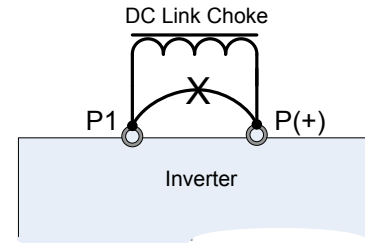

Fig. 2-3-3 Remove Jumper
- a. Before connecting a DC link choke to these terminals, remove the factory-installed jumper. (Fig. 2-3-3)